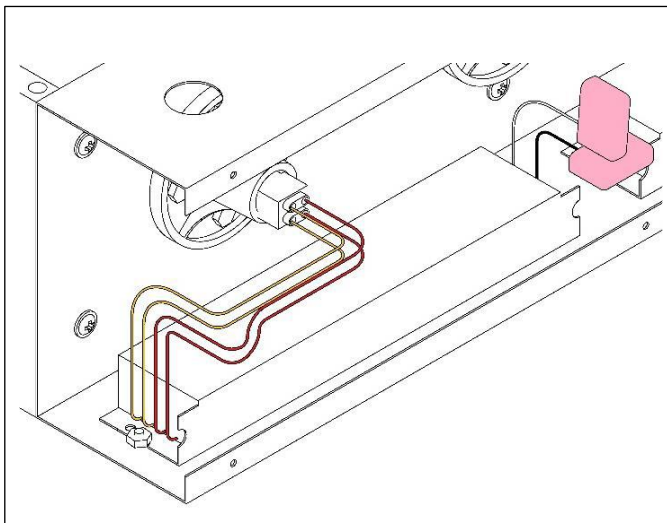

Figure 25
5.) Disconnect lamp plug and power attached to defective ballast. Take note of which terminals power the defective ballast so the new one can be wire correctly. See Figures 25 and 26.
8.) Reinstall the (2) nuts that hold the ballast in place. See Figures 25 and 26.